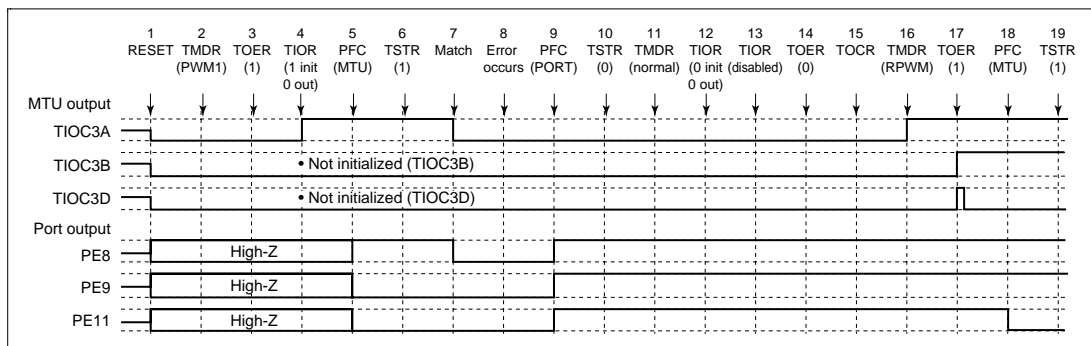

Figure 12.107 Error Occurrence in PWM Mode 1, Recovery in Reset-Synchronous PWM Mode
(12) Operation when Error Occurs during PWM Mode 1 Operation, and Operation is Restarted in Reset-Synchronous PWM Mode: Figure 12.107 shows an explanatory diagram of the case where an error occurs in PWM mode 1 and operation is restarted in reset-synchronous PWM mode after re-setting.